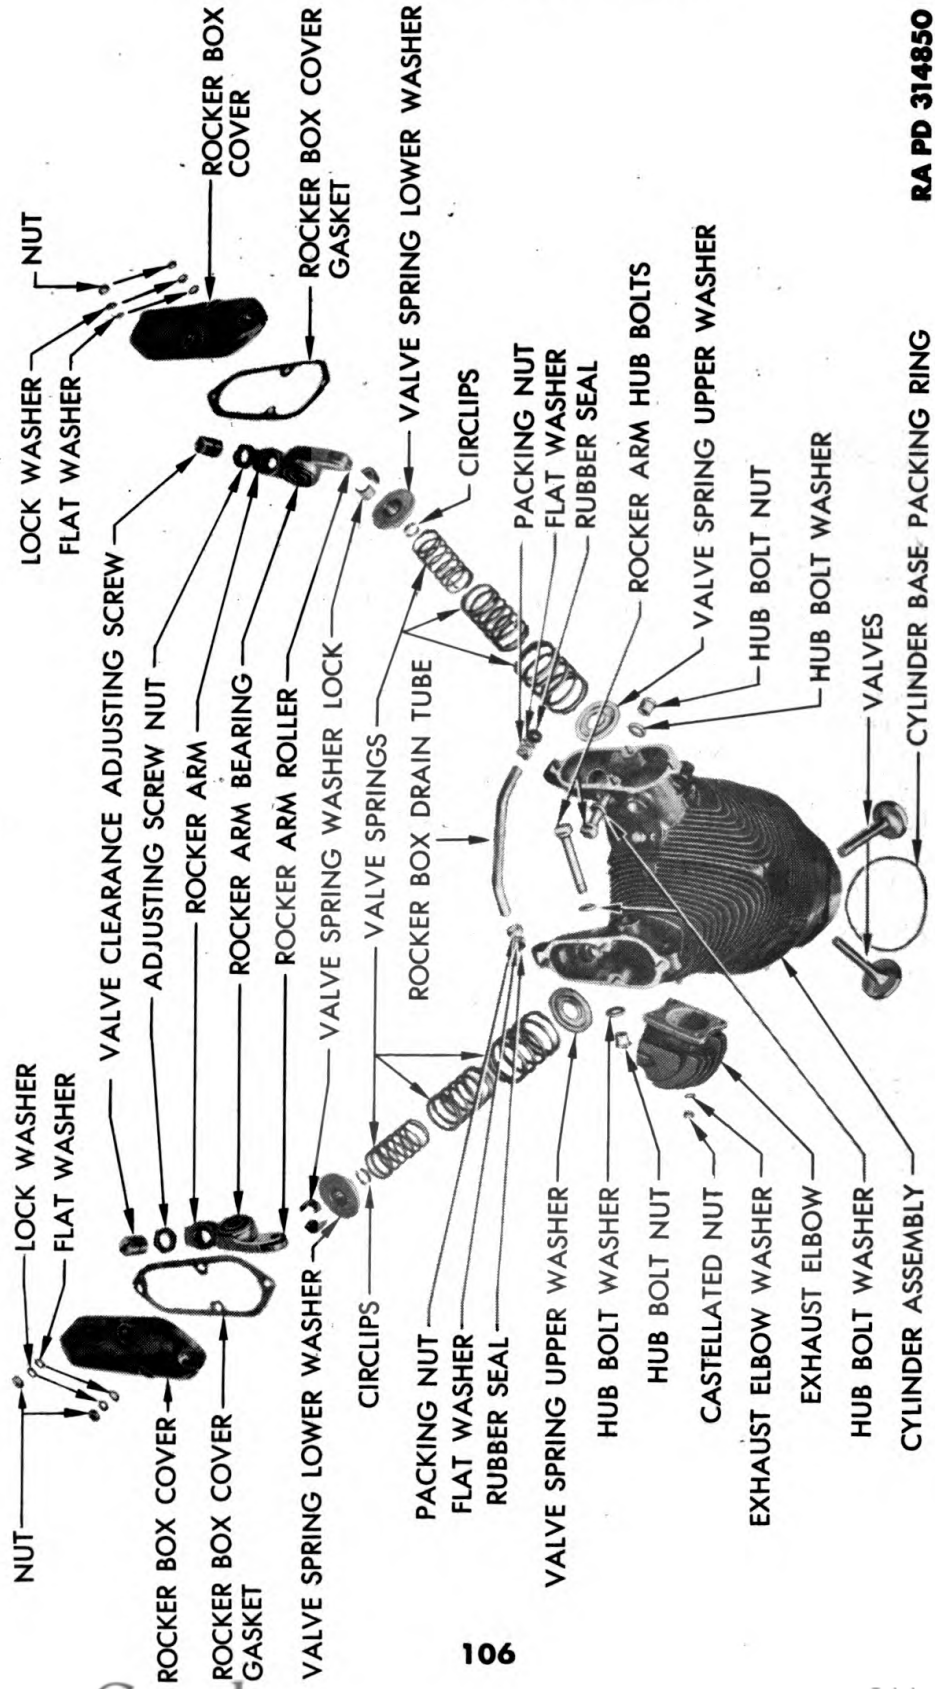

Figure 105 – Cylinder – Disassembled
(1) **ROCKER BOX COVERS.** Inspect rocker box covers (fig. 105) for warped parting surface, burrs, and cracks. Replace cracked rocker box covers. If parting surface of any cover is burred, clean up rough spots with fine stone, and polish with crocus cloth.
(1) **MOUNTING SURFACES.** Inspect the parting surface on each rocker box, exhaust elbow mounting pad, and fuel induction tube flange mounting for scratches, nicks, and for high spots around the rocker box and exhaust elbow studs (fig. 105). Remove nicks, burrs, or high spots with fine stone, and polish with crocus cloth.
(4) **CYLINDER HEADS** (fig. 105). Inspect all cylinder heads internally and externally for cracks. Look for cracked or broken fins. If cylinder head is cracked, replace cylinder. Rework cracked or broken fins by profiling the metal to depth of crack, provided crack does not extend into cylinder head dome, and only a small amount of metal needs to be removed. Replace any cylinder in which a fin crack extends into the head dome, or in which an appreciable area of fin metal must be removed to make the repair.